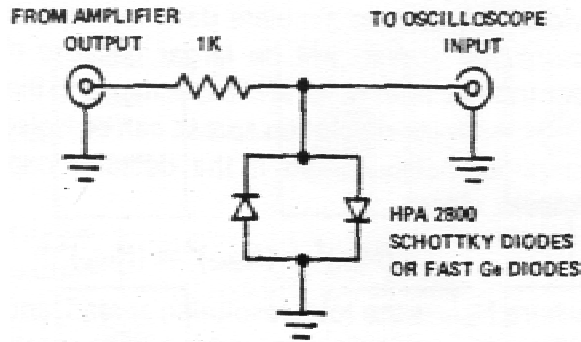

Fig. 7. A Clamp Circuit that can be used to Prevent Overloading the Oscilloscope Input.
The oscilloscope used must be dc coupled and must not contribute distortion in the observed waveforms. Oscilloscopes such as Tektronix 453, 454, 465, and 475 will overload for a 10-V signal when the vertical sensitivity is  $< 100$  mV/cm. To prevent overloading the oscilloscope, use the clamp circuit shown in Fig. 7.
- Observe the Unipolar output of the 575A with an oscilloscope. Adjust the PZ ADJ control for proper response according to Fig. 8. Use the clamp circuit in Fig. 7. to prevent overloading the oscilloscope input.